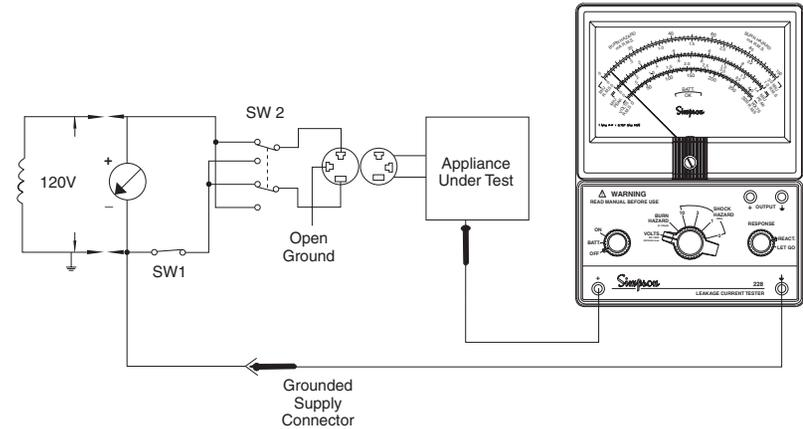

Figure 4. Typical Test Setup
1. Use SW2 switch (see figure 4, page 13) to reverse the hot and neutral. Do not close SW1 to activate the unit under test. Repeat Voltage, Burn Hazard, and Shock Hazard tests. After completing tests, return SW2 to original position.
3. Connect the Instrument and equipment under test. Figure 4, above, shows a typical test setup. Do not apply power.
**NOTE:** The following is based on set-up and test procedures from the applicable standards document (or from the equipment manufacturer) for correct main connection, detailed test procedures and leakage current limits. Figure 4, Page 13, shows a typical test setup. All items other than the 228 and its accessories must be provided by the user.